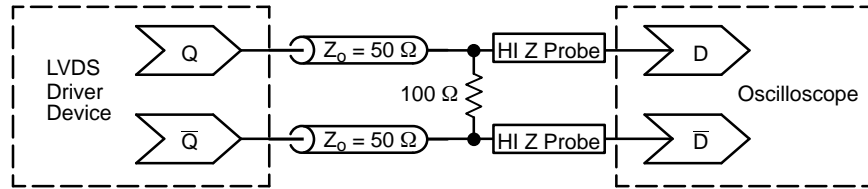

Figure 8. Typical LVDS Termination for Output Driver and Device Evaluation
5. LVDS outputs require  $100\ \Omega$  receiver termination resistor between differential pair. See Figure 8.